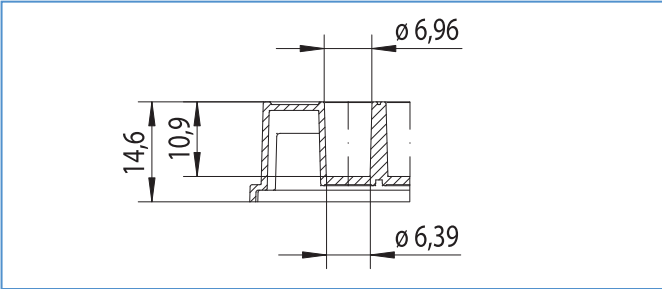

Figure 3:
3. F-Bottom / Standard (ST) (Fig. 3)